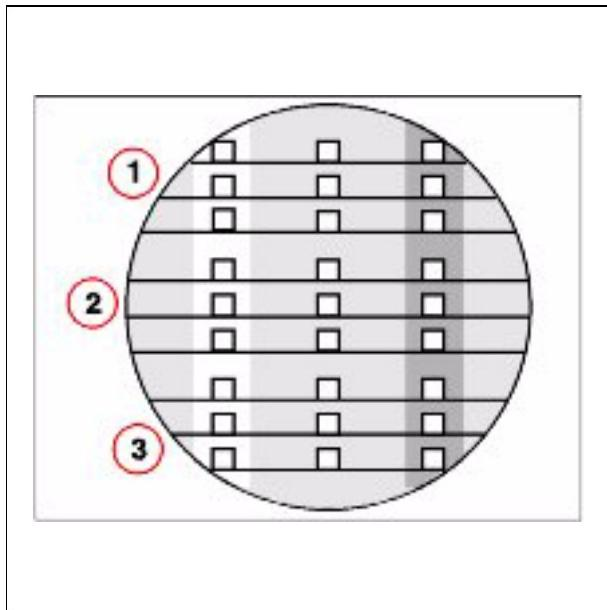
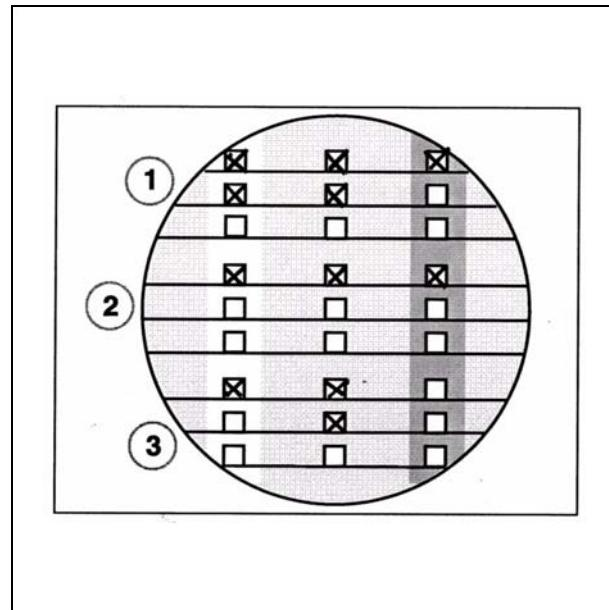
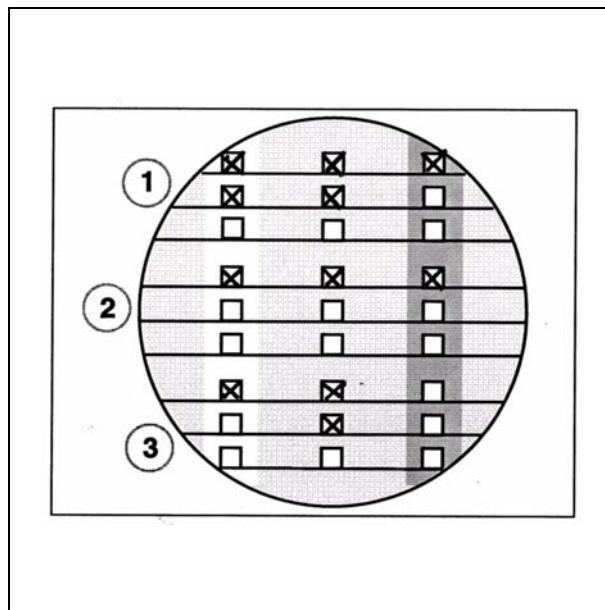

Fig. 4 Actual value
Fig. 5 Setpoint
Fig. 7 Setpoint
- Record those fields with a cross, in which the plexiglass lines are visible (Fig. 4, for factory settings; Fig. 6, for startup or diagnostic).
The plexi capillaries marked must be visible (Fig. 5/Fig. 7).
The 3 columns of checkboxes in Fig. 4/Fig. 5/Fig. 6/Fig. 7 correspond to the image fields 2L, 1 and 5R.